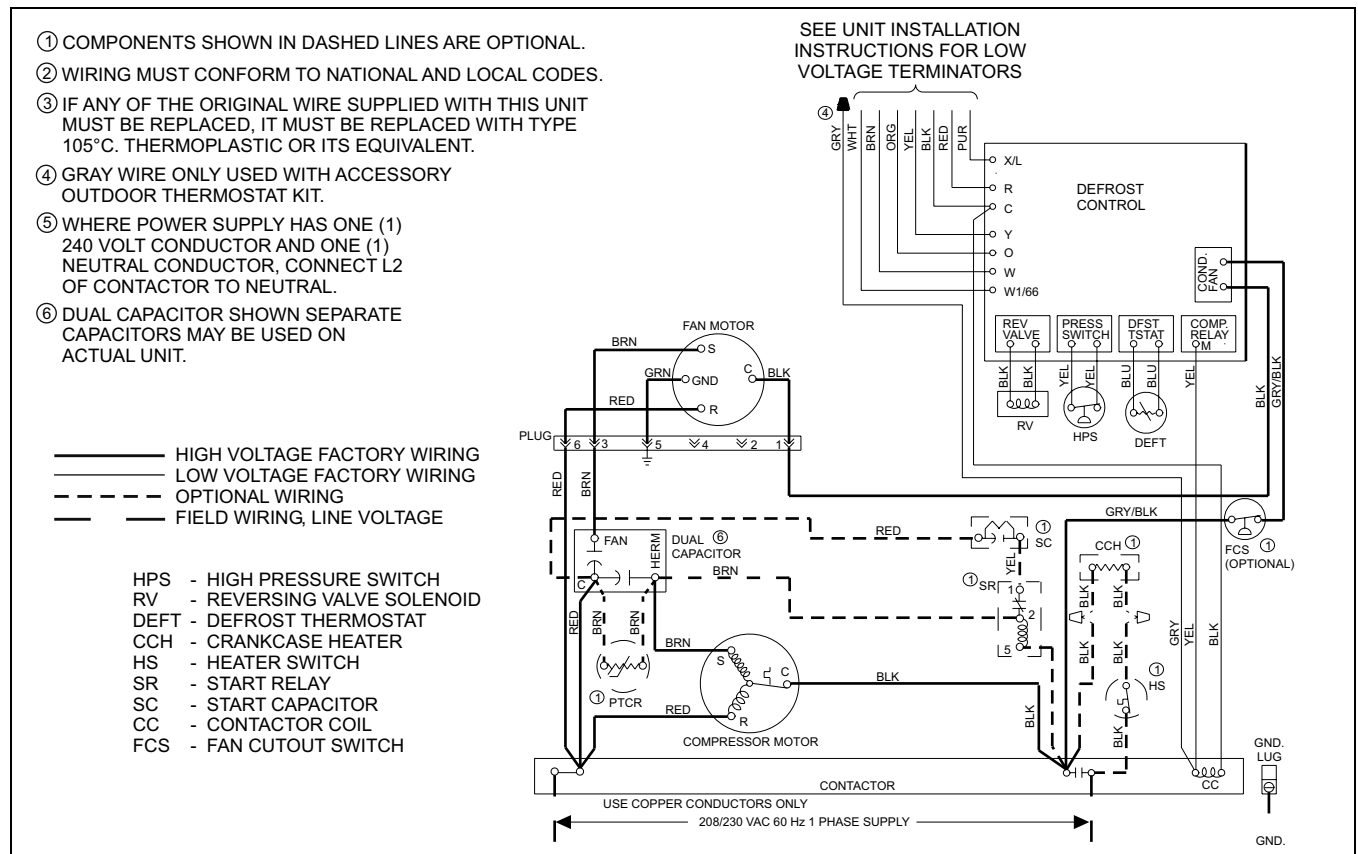

FIGURE 4
6. Attach the brown lead wire from the starting kit relay #2 to the same terminal on the dual capacitor which was located in Step 4. See Figure 4.
NOTE: The wiring of the capacitor and relay must agree with Figure 4. Also, see diagram on control box cover.